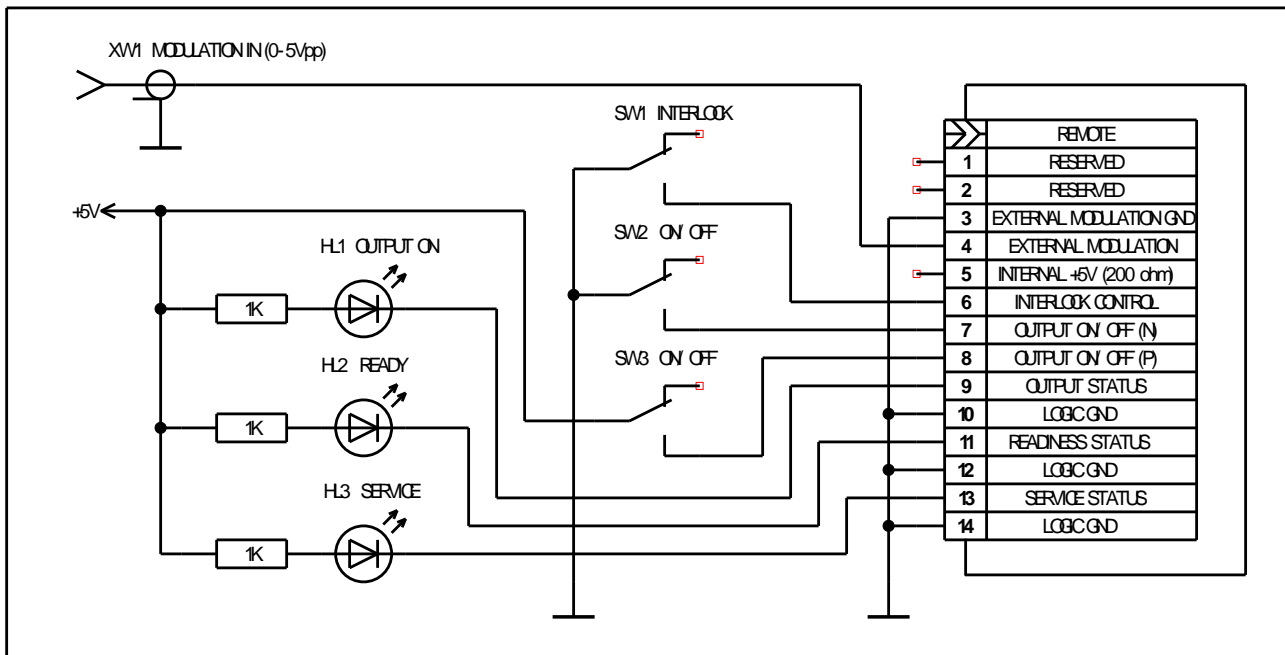

Figure. 3 Example of basic controlling of the Light Source via REMOTE port
4.4.5 Control the Light Source by applying control signals to the terminals of the REMOTE port. Possible example is shown on Figure 3. More details about electrical connections to the REMOTE port can be found in Sec. 2.1 of the document.